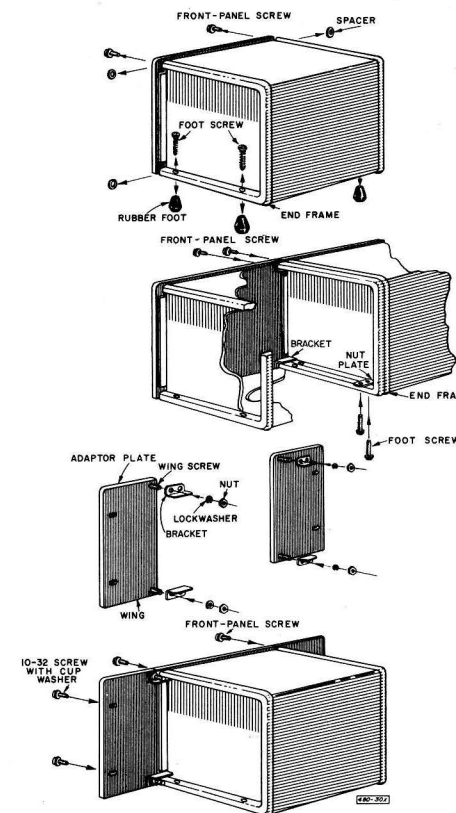

Figure 2-1. Rack mounting the Type 1313 Oscillator.
2.2.2 ATTACHMENT OF ADAPTOR SETS. (Figure 2-1).